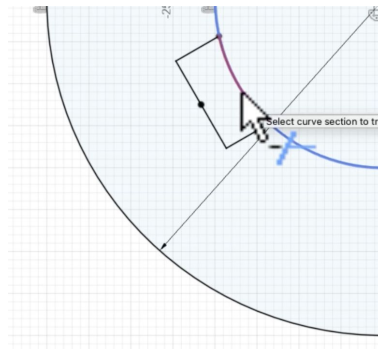

Figure 1.13
- **Trim Tool:** Removes unnecessary parts of sketch geometry, such as cutting away circle segments inside a profile. You'll find it under '**Modify**' → '**Trim**'. Click the line you want to '**trim**', and it will highlight in red to show what will be removed (see Figure 1.13).